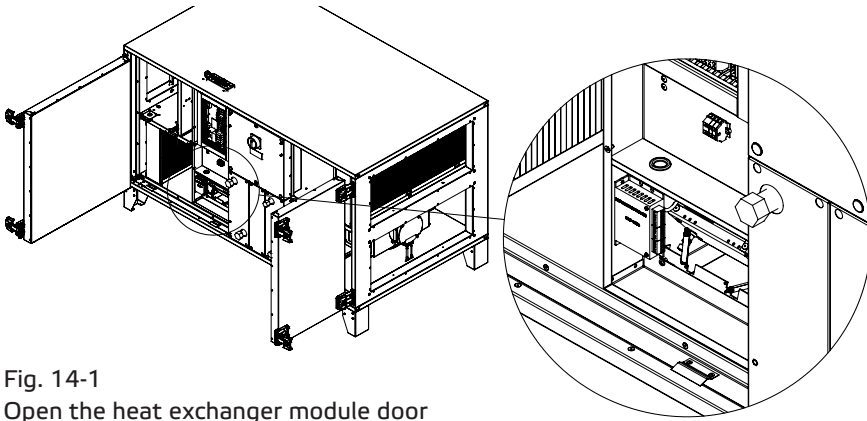

Fig. 14-1
- Turn off the switch then open the door of the heat exchanger module. This will give you access to the belt. (see Fig. 14-1)